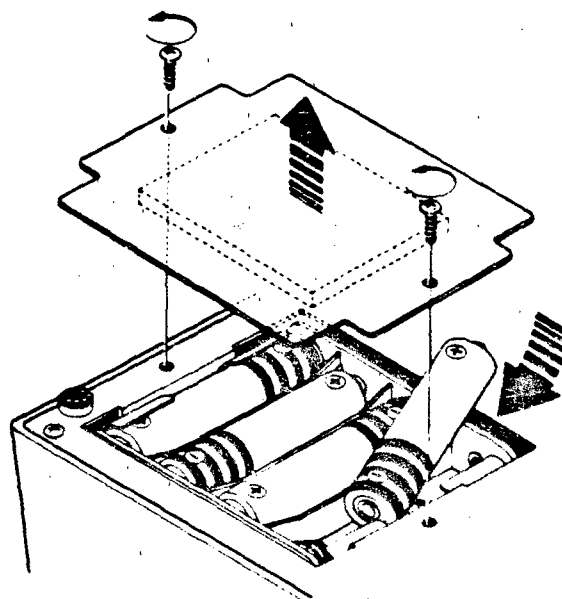

Fig. 2 Battery installation
Turn the Power Switch OFF before making connections. Connect the AC power cord as shown in Fig. 2.
(1) Obtain four (4) common "AA" cells.
(2) Remove the lid as shown in Fig. 2. Install the batteries observing correct polarity. Replace the lid.
(3) After the batteries are installed, place the POWER switch ON and verify that the LED lights.